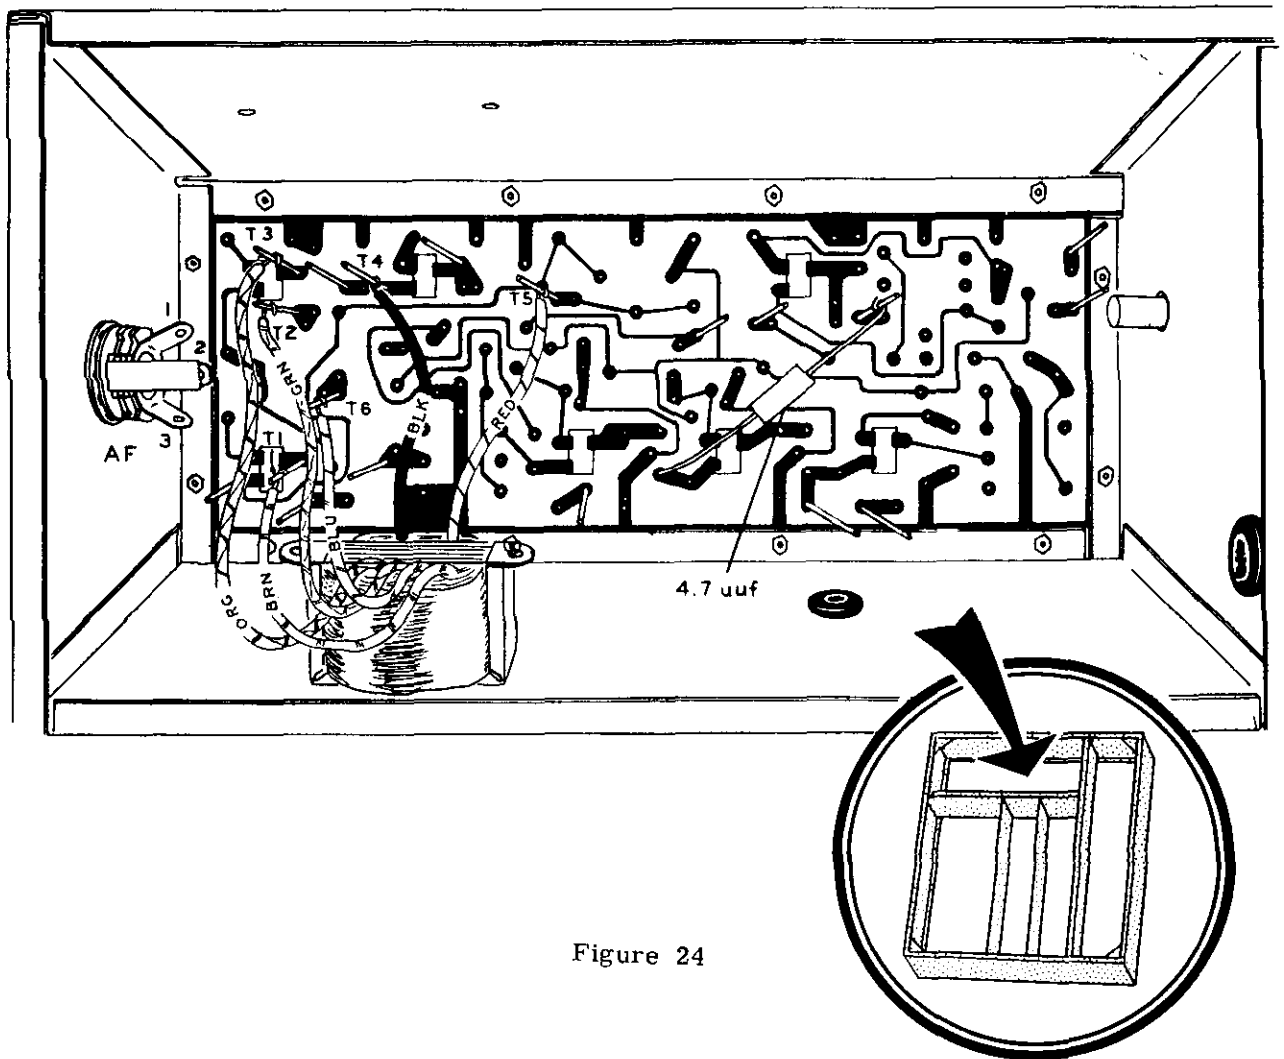

Figure 24
- Refer to Figure 24 for the following steps.